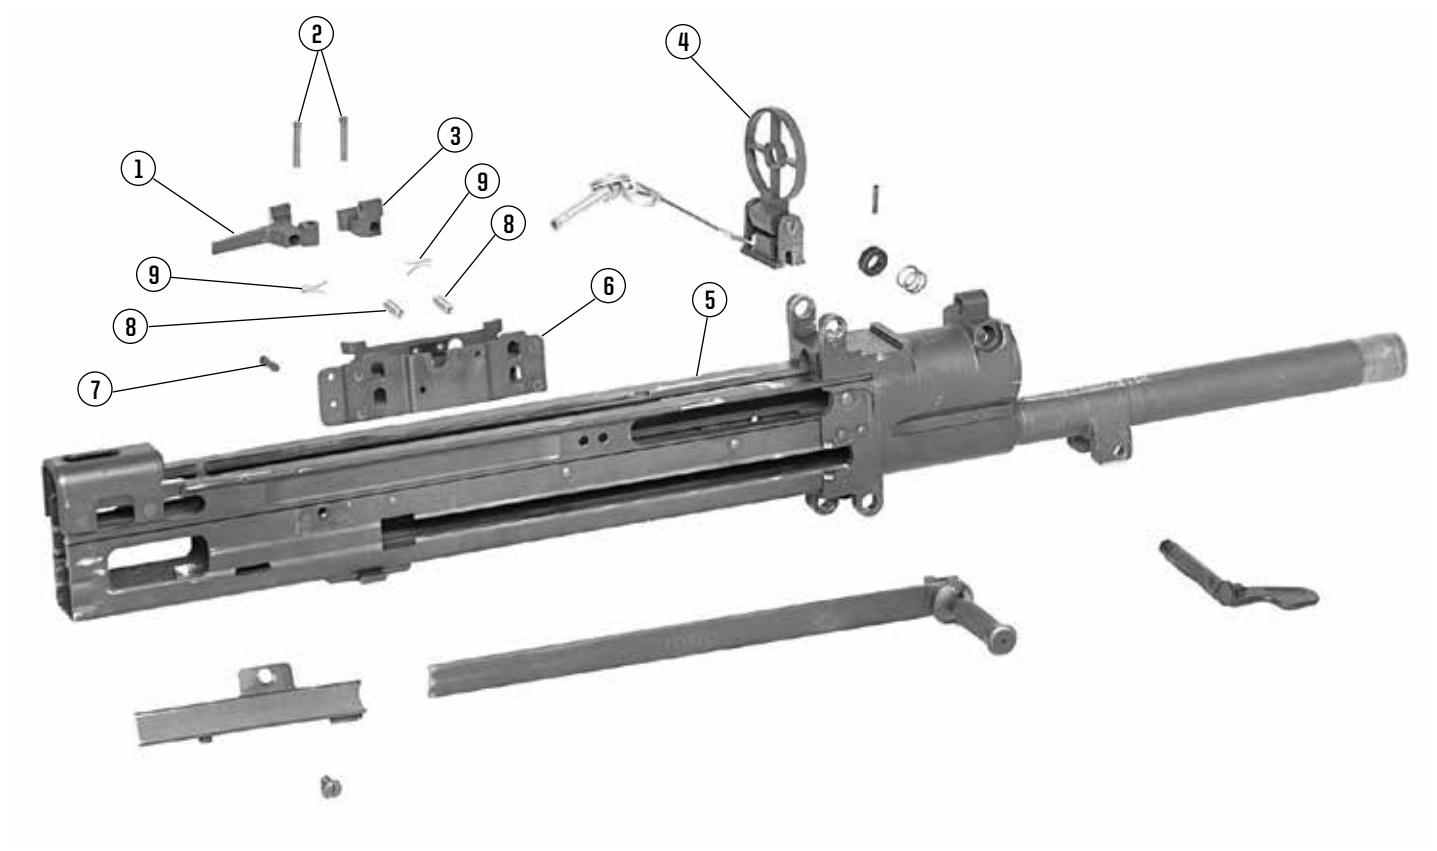

Figure 2. Group 00 Machine Gun, 7.62-MM, M60D
*SEE FIGURE 2 FOR FURTHER DISASSEMBLY
GROUP 00: MACHINE GUN, 7.62-MM, M60D (2 of 2) FIG. 2: MACHINE GUN,7.62-MM